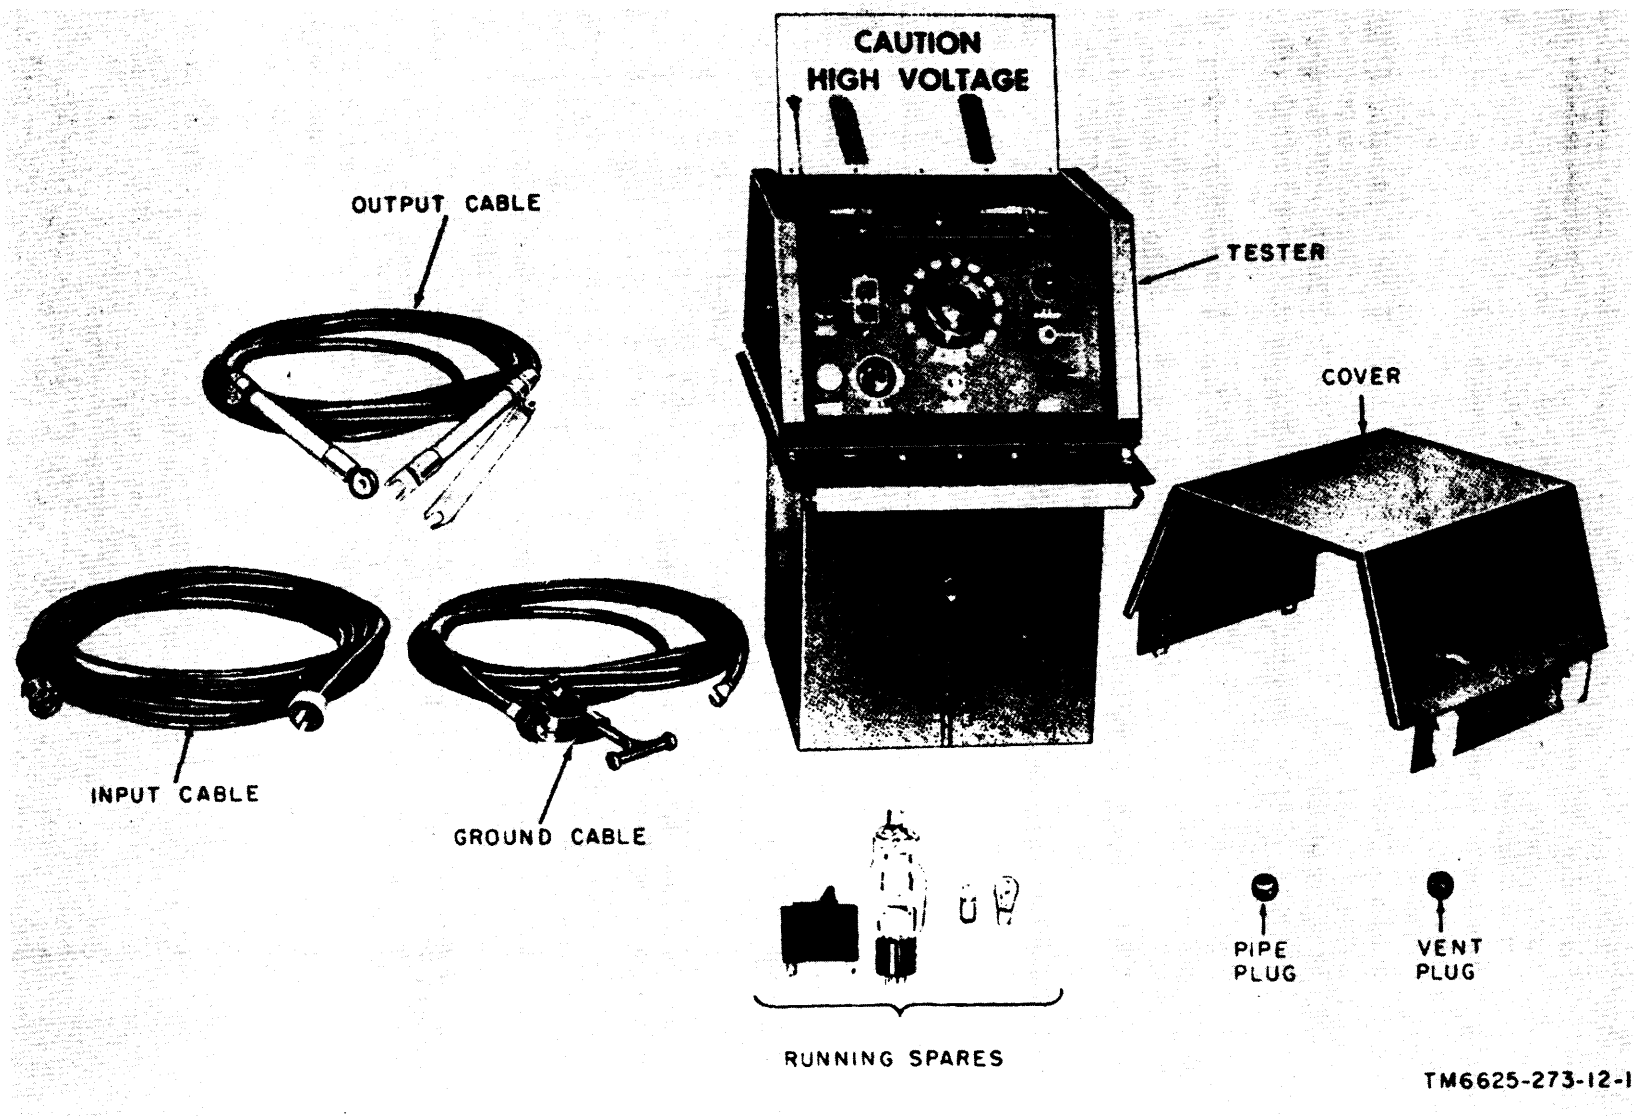
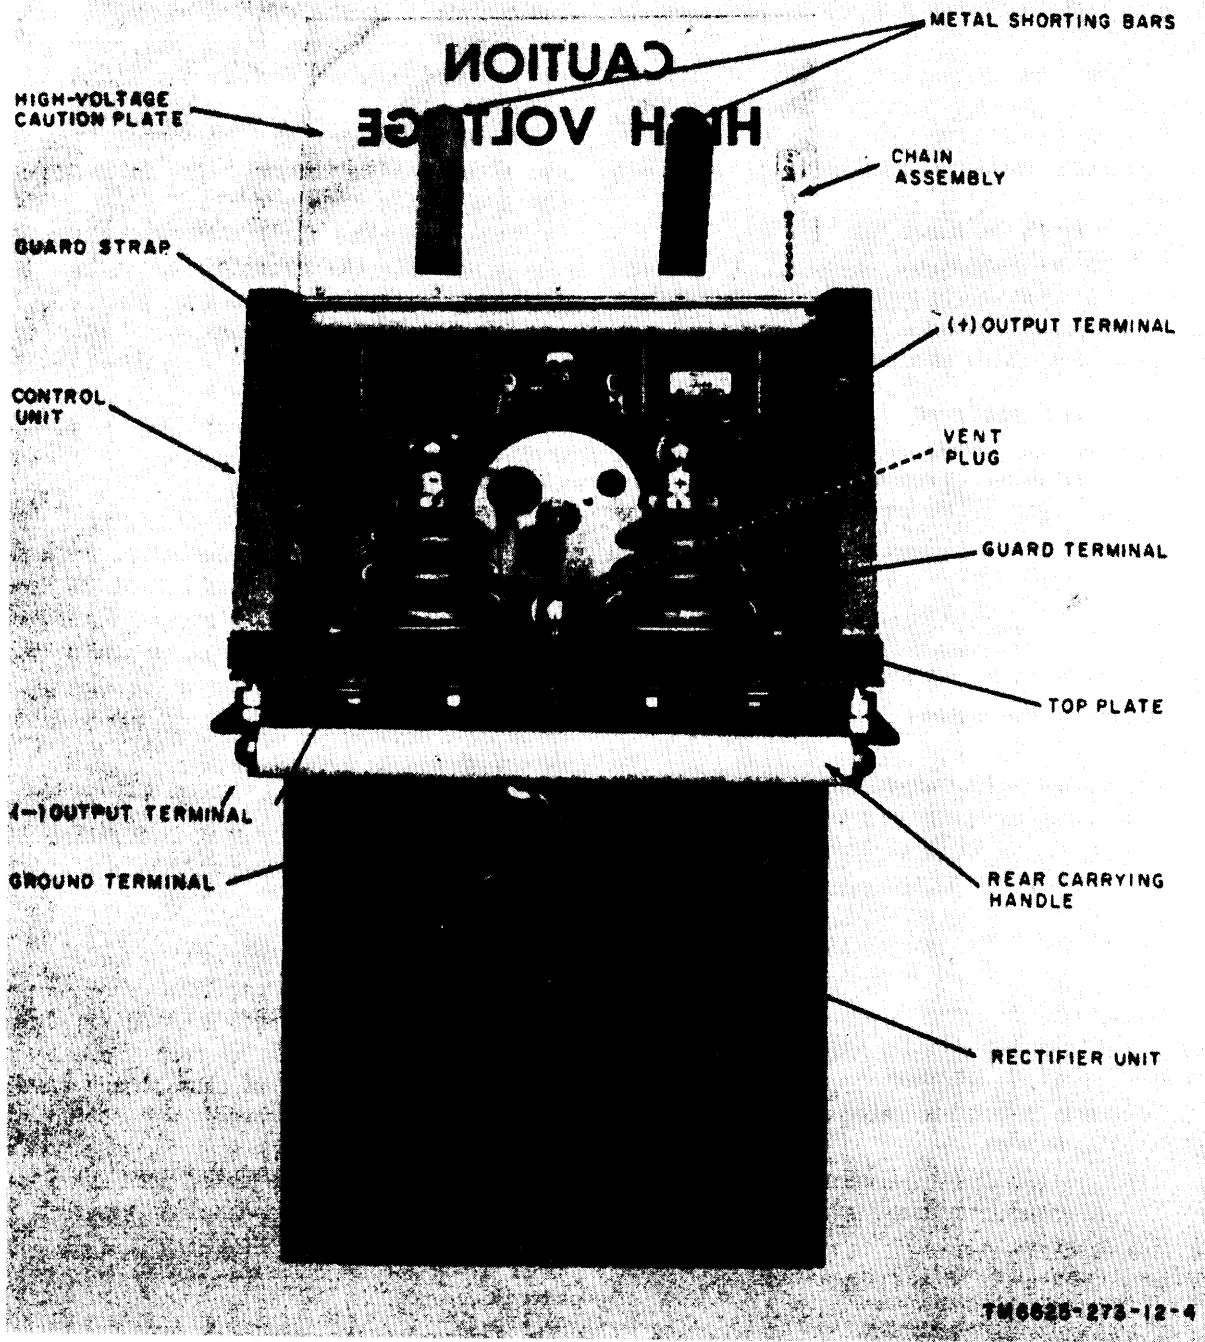

Figure 1. Insulation breakdown test set AN/GSM-6.
Figure 4. Insulation breakdown test set TS-928/G, rear view.
a. *Purpose.* insulation Breakdown Test Set AN/GSM-6 (fig. 1) supplies high direct current (dc) voltages for testing the insulating qualities of electrical insulation,
(fig. 1)
The test set (fig. 1) is a transportable unit. The major components of the test set are the tester and the interconnection cables.
*b. Interconnection Cables (fig. 1).* Three interconnection cables are provided with the test set.
- (1) *Input cable.* The input cable, used to connect the test set to a power source, is terminated at one end by a parallel-blade male plug and on the other end by a Twistlock female connector.
- (2) *Output cable.* The output cable is a coaxial-shielded cable. The center conductor connects the high voltage from the positive or negative output terminal of the test set to the test specimen. The shield, or outer conductor, connects to the guard terminal of the tester. The other end of the shield may also be connected to a guard terminal on the test specimen.
- (3) *Ground cable.* The ground cable is terminated at one end with a spade lug and at the other end with a clamp. The spade lug is connected to the ground terminal of the tester and the clamp to the grounded frame or sheath of the test specimen to provide common ground to all components.
(figs. 1 and 2)
*e.* Remove the cover (fig. 1) from the tester.
*f.* Check the rear of the control unit (fig. 4) for loose or faulty connections, damaged wires, dirt, and moisture.
*h.* Remove the pipe plug (fig. 1) from behind the tile guard terminal, and replace it with the vent plug (fig. 4).
- c. Clean the output terminals (fig. 4) with a clean lint-free cloth.
- (2) If a positive output-voltage polarity is required, connect the guard strap from the guard terminal to the negative (-) output terminal (fig. 4).
j. Raise the high-voltage caution plate (fig. 4) and secure it in place with the chain assembly.
n. Observe (DO NOT TOUCH) the output terminals (fig. 4) for either corona formation or flashover.
q. If corona formation, flashover, or leakage current was observed (n and o above), thoroughly clean the output terminals (fig. 4) and the surrounding area with a clean lint-free cloth.
- (1) Remove dirt and moisture from exposed surfaces of the tester.
- (2) Wipe the output terminals, the ground terminal, and guard terminals (fig. 4), with a clean lint-free cloth. Check to see that all terminal nuts are tight.
- (2) Inspect the cables for cuts, breaks, fraying, or deterioration,
- (3) Inspect the connectors (fig. 4) at the rear of the tinter for snug fit and good contact.